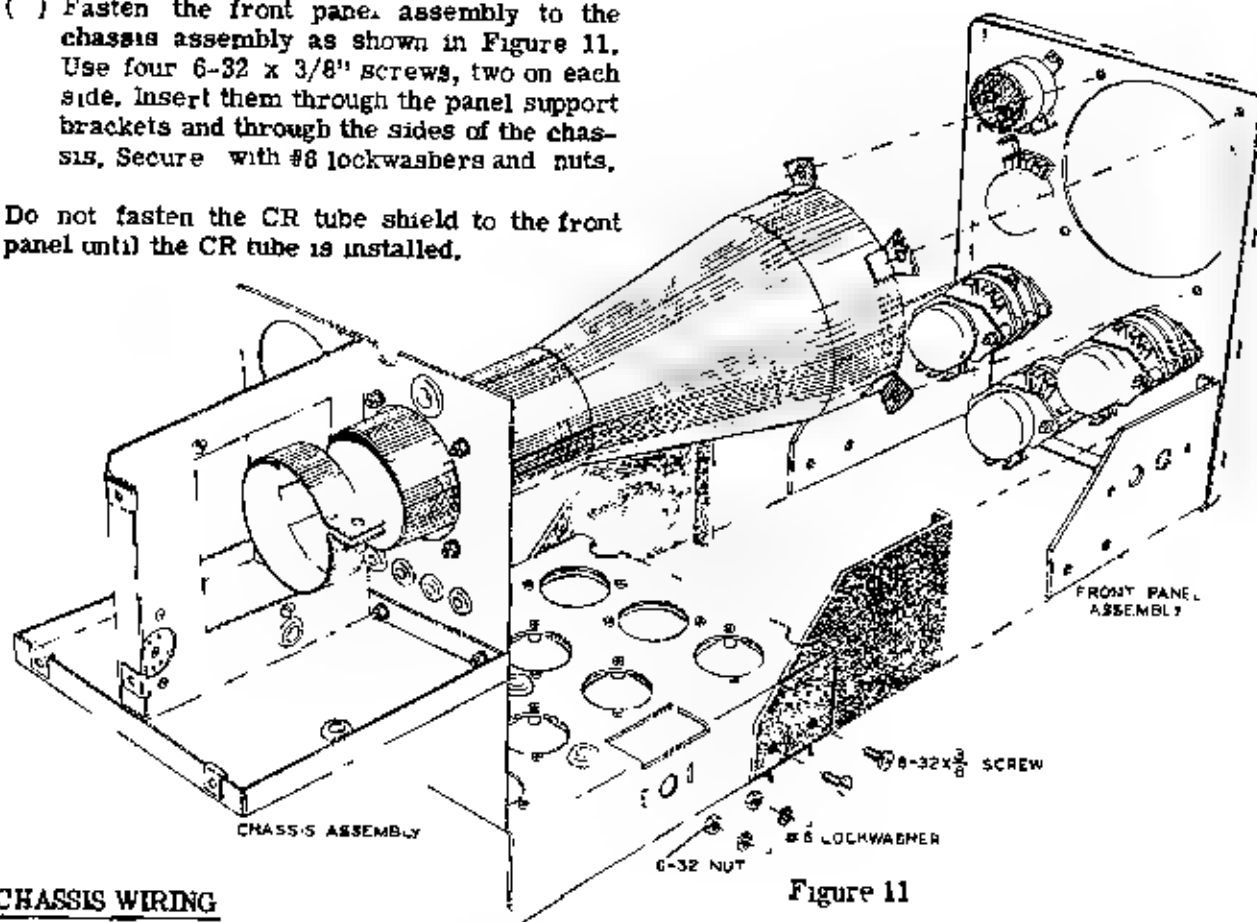

Figure 11
Refer to Figure 11 for the next step
- () Fasten the front panel assembly to the chassis assembly as shown in Figure 11. Use four 6-32 x 3/8" screws, two on each side. Insert them through the panel support brackets and through the sides of the chassis. Secure with #8 lockwashers and nuts.